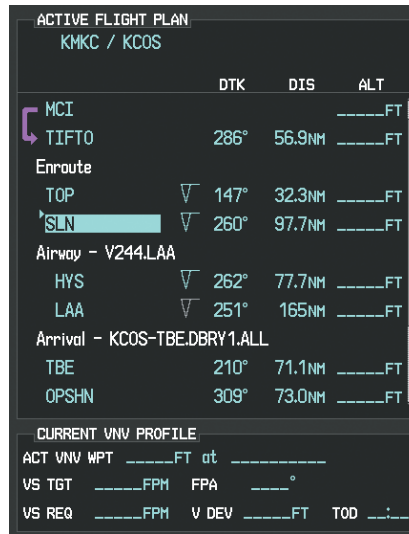

Figure 5-110 TOP Inserted into the Flight Plan
d) Press the **ENT** Key. TOP is inserted into the flight plan as in Figure 5-110.
- e) With SLN still highlighted as in Figure 5-110, turn the small **FMS** Knob clockwise. The Waypoint Information Page is displayed and the **LD AIRWY** Softkey is now available.